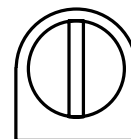

Fig. 2
*The link piece of the cock coupling must be parallel to the side walls of the Dosimat (see Fig. 2).*